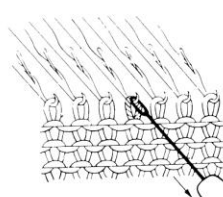

Fig.50-1
- a) Place the eye of the transfer tool into open needle hook. (Fig.50-1)